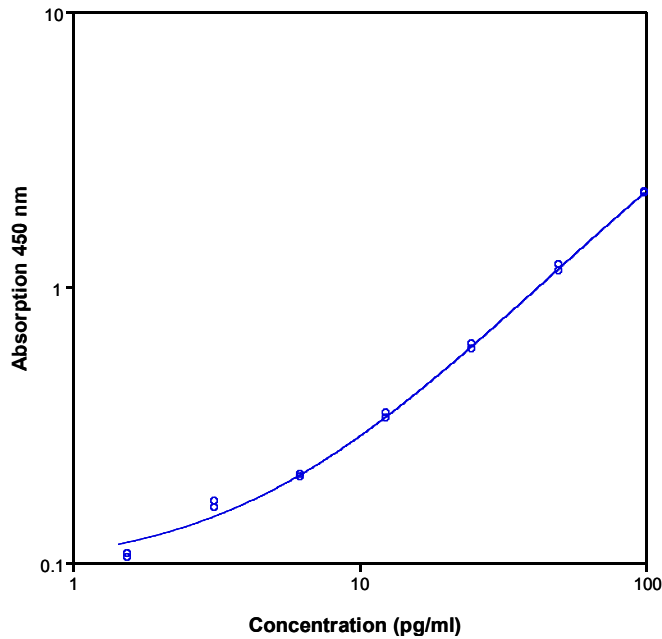

Fig. 8 Representative standard curve for human IL-1  $\alpha$  ELISA. Human IL-1  $\alpha$  was diluted in serial 2-fold steps in Sample Diluent.
- A representative standard curve is shown in Figure 8.